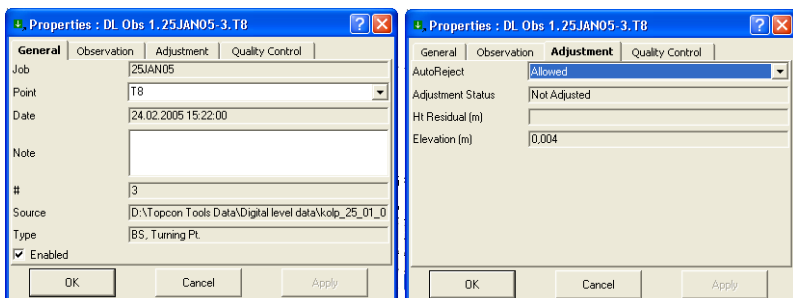

Figure 5-97. General and Adjustment Properties
- Edit the *Point* and *Note* in the *General* tab and *AutoReject* in the *Adjustment* tab as needed (Figure 5-97).
2. View or edit *General* tab fields (Figure 5-97 on page 5-63). Edit the *Point To*, *Distance*, *Notes*, and *#* parameters as needed.